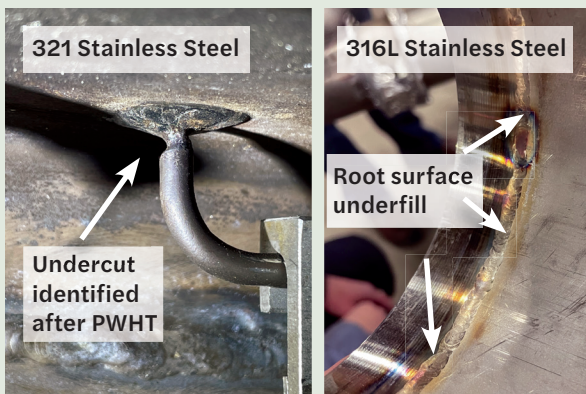

Fig. 2 — VT weld discontinuities as inspected during a welding shop walkdown inspection.
- ▶▶ Conduct a welding shop walkdown inspection during which the corporate culture of quality will be revealed via shop-floor work practices as well as weld and weldment inspections. Inspect welds and weldments and the quality of workmanship for fitups, weld bead profiles, distortion and alignment, and weld discontinuities and defects — Fig. 2.